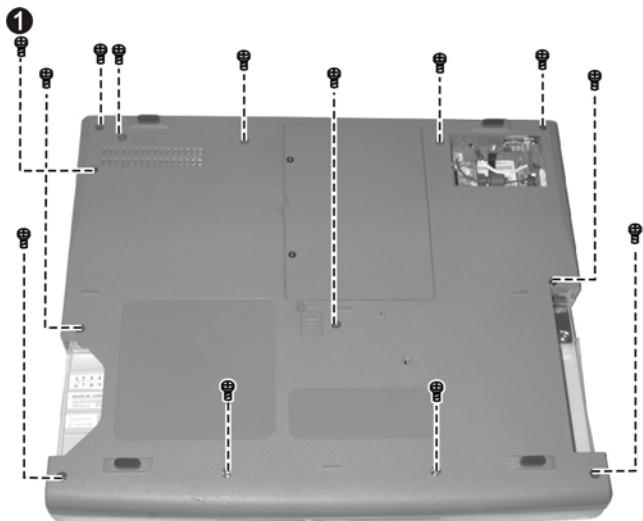

Figure 2-11
5. Remove one screw locking the CD-ROM (**①**), and then the other twelve screws locking the base unit frame. (figure 2-11) Now you can lift the base unit frame up.